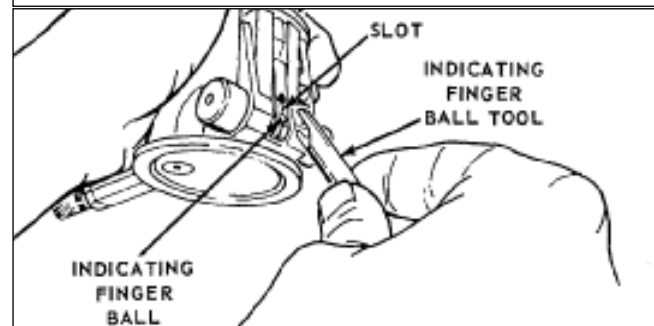

FIGURE 8
1. Insert Indicating Finger Ball Tool into Slot and pry upward to remove Ball. Ball will stay in Tool (see Figure 8).